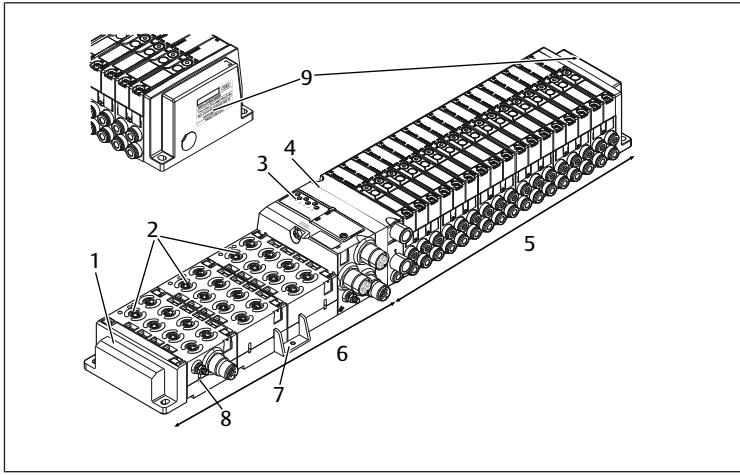
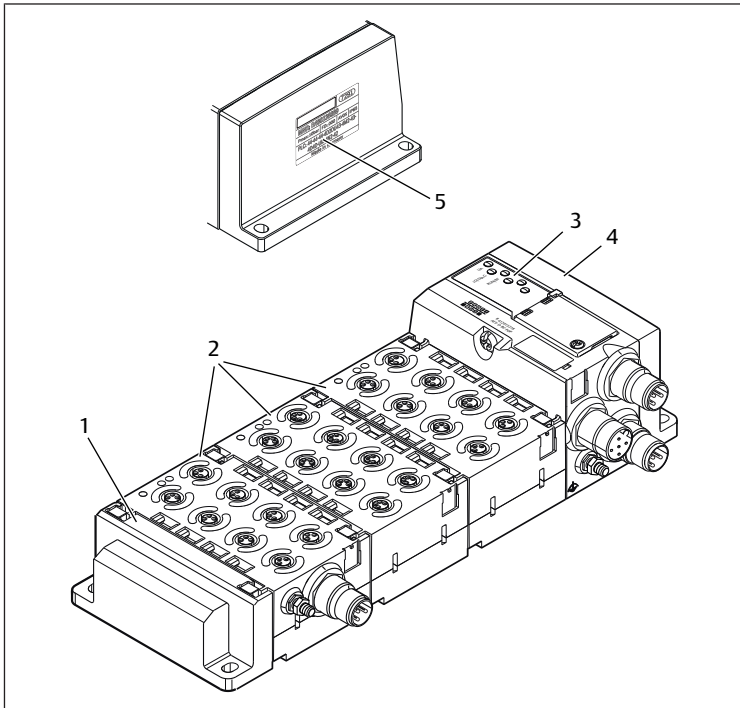

Fig. 1: Unit composed of series AV valves and an AES unit
Fig. 2: AES unit as stand-alone variant
- On the right with three screws to the transition plate (see Fig. 1: Unit composed of series AV valves and an AES unit (4) and Fig. 12: Mount the bus coupler on the right) or to the right end plate for the stand-alone variant (see Fig. 2: AES unit as stand-alone variant (4) and Fig. 2: AES unit as stand-alone variant),
- On the left with two spring clamp elements to an I/O module (see Fig. 1: Unit composed of series AV valves and an AES unit (2)) or to the left end plate (see Fig. 1: Unit composed of series AV valves and an AES unit (1)).
- On the right with both supplied spring clamp elements to a bus coupler (see Fig. 1: Unit composed of series AV valves and an AES unit (3)) or to an I/O module,
3. If necessary, remove the retaining brackets (see Fig. 1: Unit composed of series AV valves and an AES unit (7)) on the I/O modules.